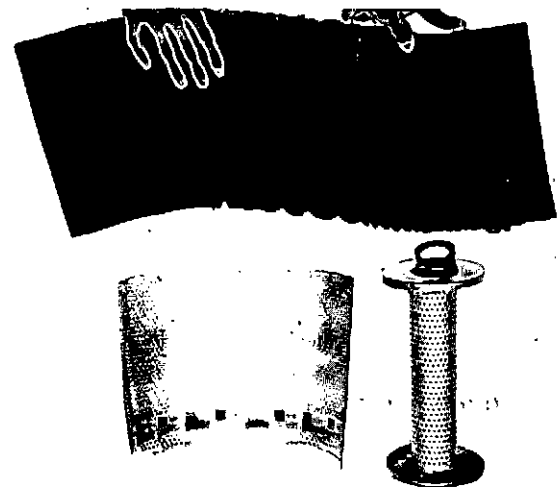

Fig. 7-13 (V40727). Inspect The Paper Element.
2. Inspect the element for metal particles and dirt, Fig. 7-13. If metal particles are found in the element, be sure to inspect all bearings in the engine. Discard the element after inspection.